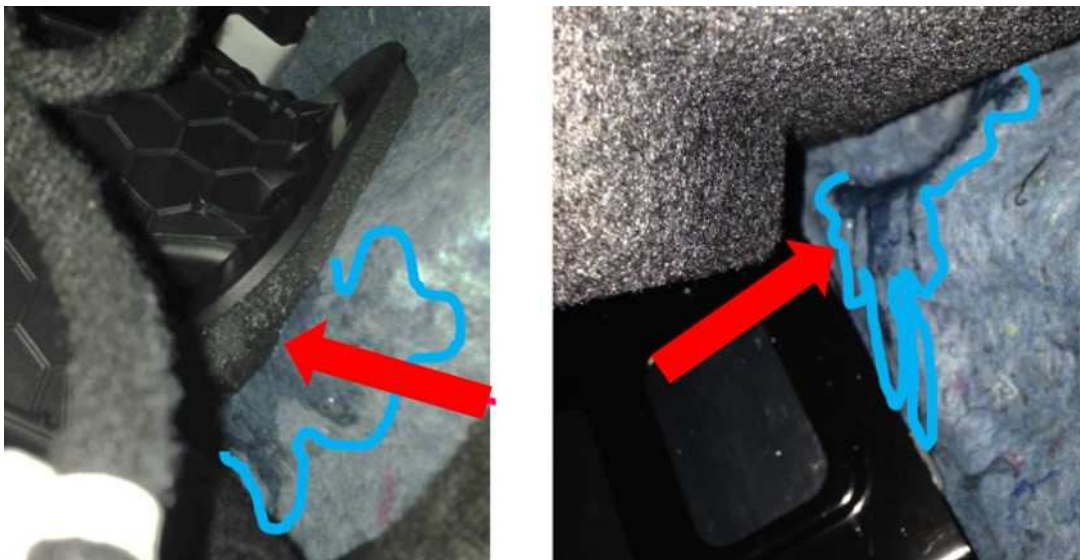

Fig. 1
4. Inspect the instrument panel insulator (Fig. 1) for dampness or water intrusion by performing the following steps:
5. Was the instrument panel insulator, or any of the carpets or mats damp or have an odor (Fig. 1) ?